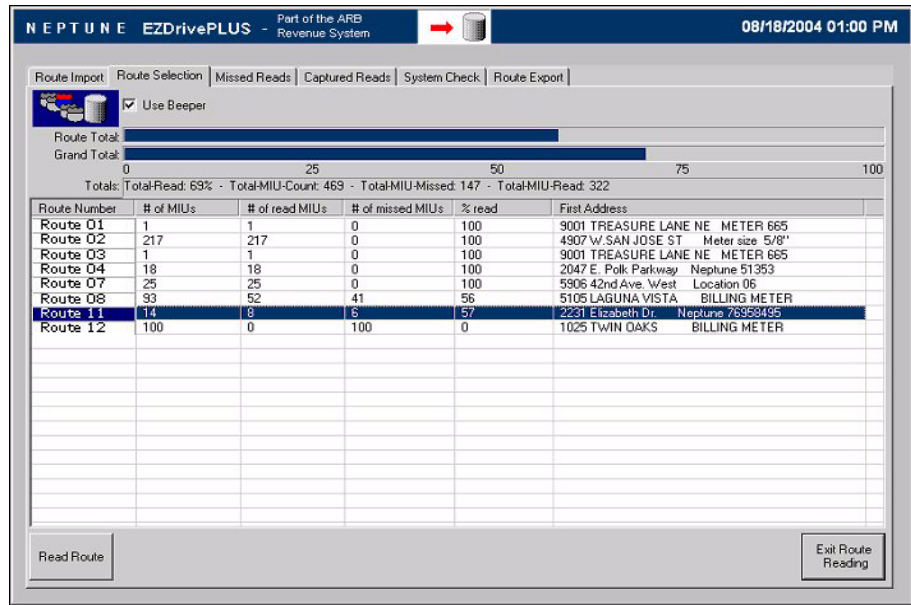

Figure 4.6 Route Selection Screen with Route Highlighted
- 1 From the Route Selection screen, highlight the route containing the account you want to view, as shown in Figure 4.6.